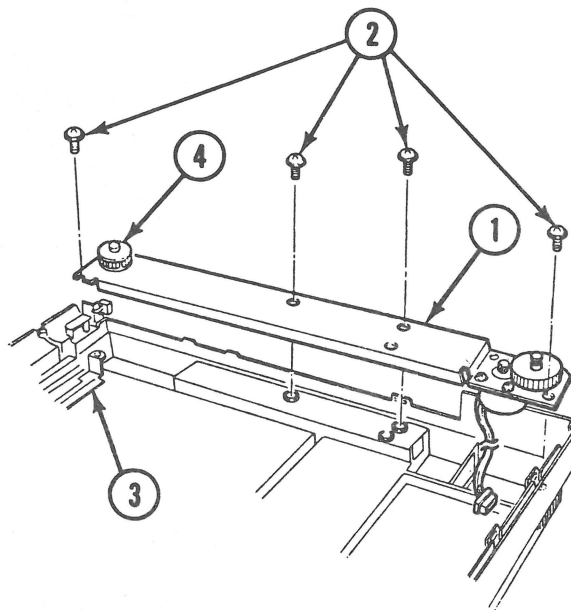

FIGURE 24
4. If the pulley (Figure 24, #4) was removed, replace it at this time, securing it with the large E-clip.
5. Place the pulley and carrier motor assembly (Figure 24, #1) back into the bottom case. Use the four screws with the black washers (Figure 24, #2) to secure the motor assembly. Make sure that the interlock switch assembly is loose but tucked in along the case, and that the carrier motor assembly fits into the middle part of the switch assembly.
7. Replace the ground strap (Figure 24, #3) and secure it with a screw.